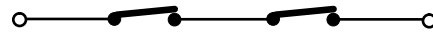

Fig. 12
N.B. If two or more devices have the same function (opening or closing), they should be connected to each other in series (see fig. 12). N.C. contacts must be used.